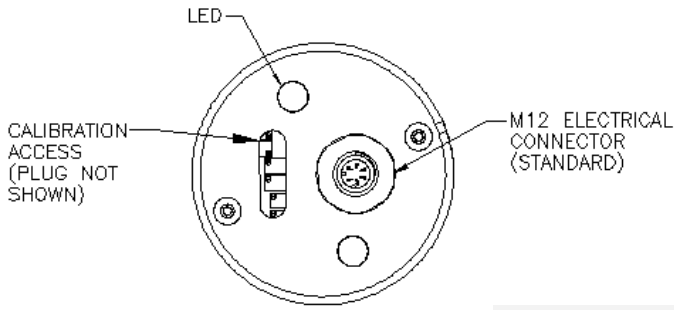

FIGURE 4
3. Provide supply pressure to the inlet port of the BVGX. (See figure 4). Make sure supply pressure does not exceed the rating for the valve. (see table 1)